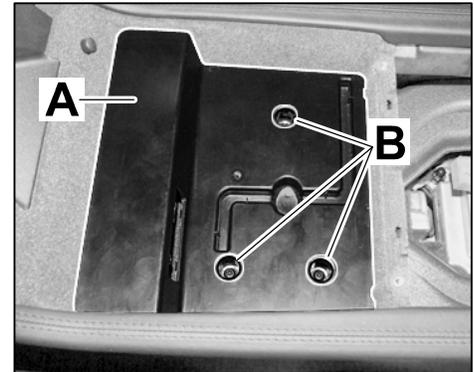

Figure 10
- 3.7 Fit console ⇒ *Figure 10-A*- and secure with three screws (4.2 x 16) ⇒ *Figure 10-B*-.